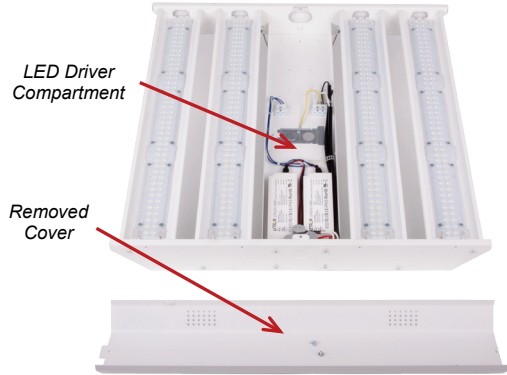

Fig. 1: Open Driver Compartment
- To access all internal wiring connections, use a Phillips screwdriver to remove the two screws that secure the LED driver compartment cover. (See Fig. 1.)